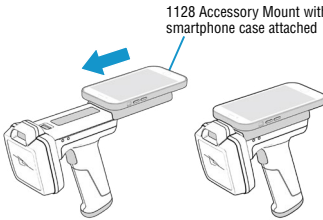

FIGURE 3: Mounting a device onto the 3128 Reader
- Align the Accessory Mount with the rails on the 3128 Reader, and slide it into position in the direction indicated in Figure 3. The mount will 'click' into place.